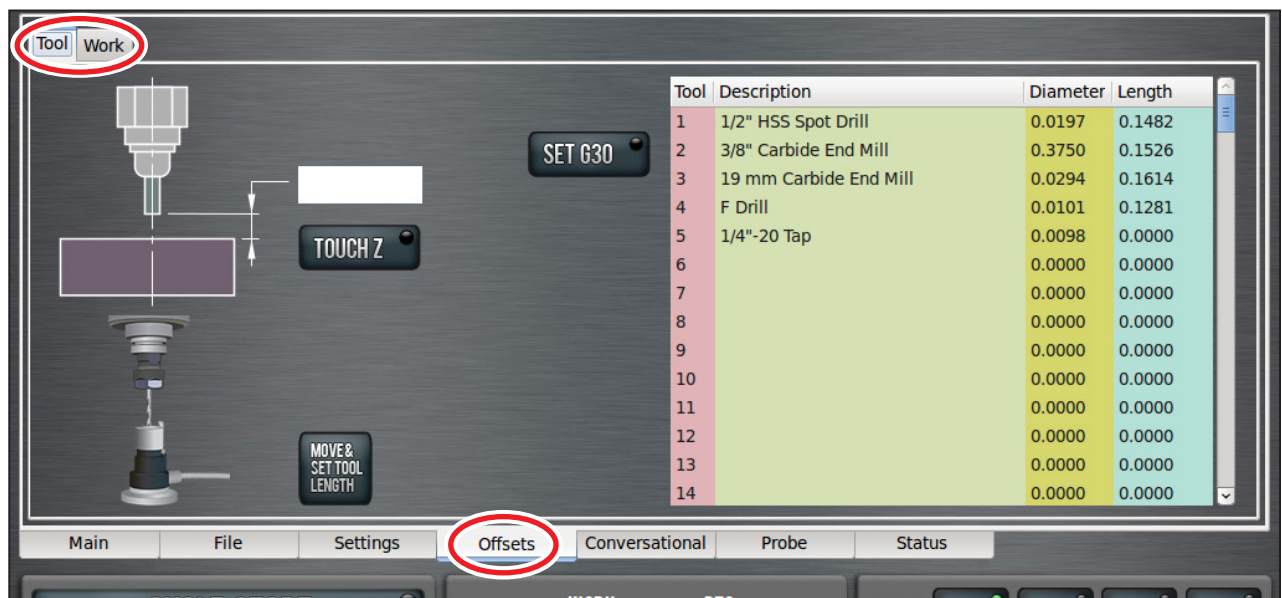

Figure 6.19
The *Offsets* tab reveals two sub tabs: *Tool* and *Work* (**see Figure 6.19**).
The *Tool* tab displays a tool table on the right with fields available to input tool information (see **Figure 6.19**).
4. From the PathPilot interface, click the appropriate line in the tool table (see **Figure 6.19**); the line is highlighted.
5. Press *Data* on the USB interface cable to transfer measurement information to the *Length* field in the tool table (see **Figure 6.19**).